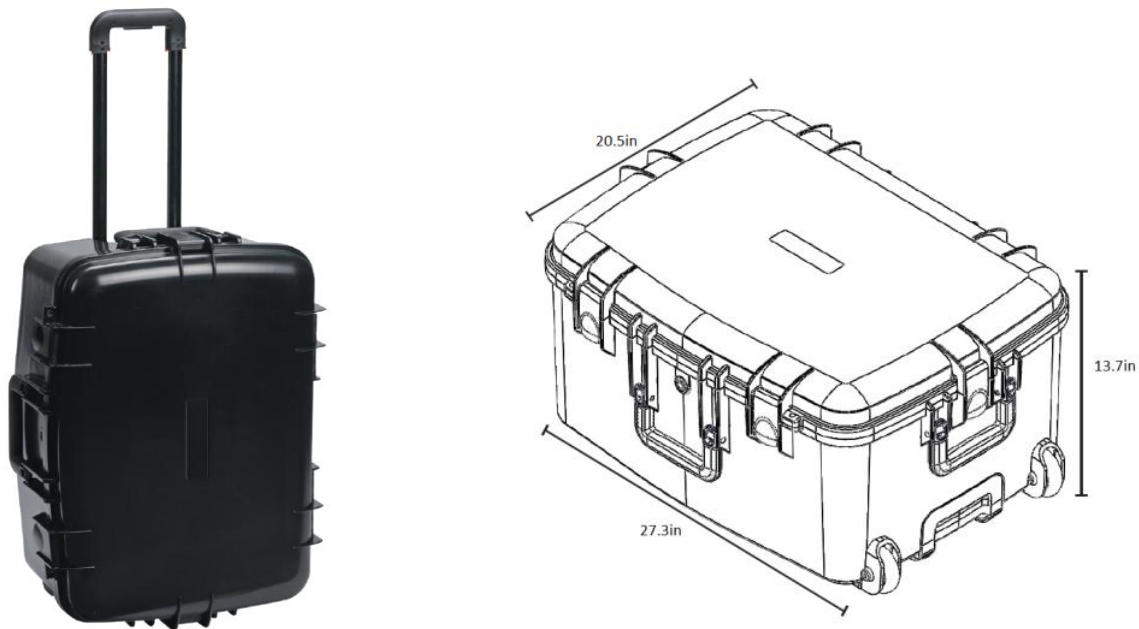

Figure 6 Optional Travel / Shipping Case
- (1) Ruggedized shipping case Barfield P/N 194-00073 see drawing in Figure 6.
- (2) Nav-Aids Pitot Static Adapters – Contact Barfield with your aircraft requirements
- (3) Wi-Fi enabled tablet - either Android or IOS device.
- (4) Wi-Fi Application – available as free download from either Google Play Store or Apple App Store.